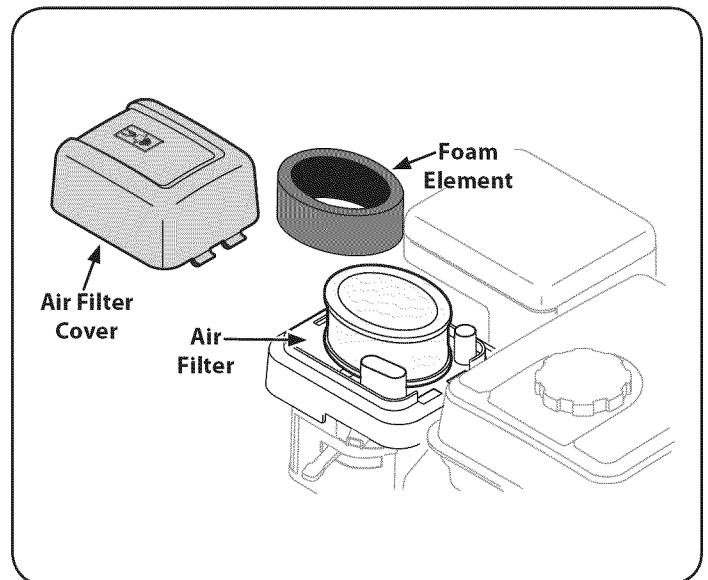

Figure 22
1. Press the tab on the air filter cover, lift the cover and remove the air filter. See Figure 22.